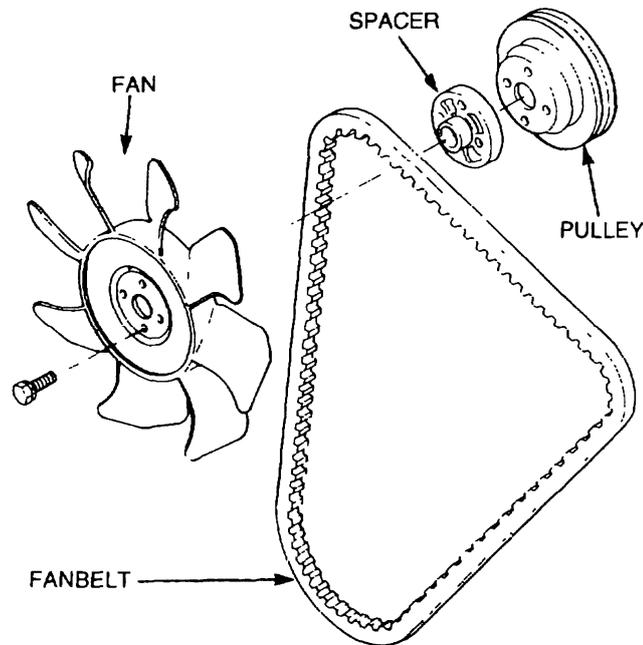

Figure 17 Fan, Spacer and Pulley
- h. Remove the fan, spacer and pulley (Figure 17).